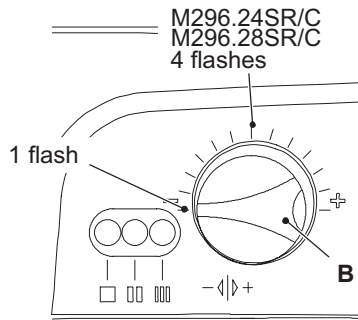

Figure 8.16
It's now possible to check the current setting by pressing reset button D for more than 5 seconds. The three lamps F will flash a number of times corresponding to the setting as in Figure 8.16 (once for the combination and four times for system boilers). At this point only the right green light flashes.
- 11 To change the setting turn the knob B on a position corresponding to the boiler model (Figure 8.16).